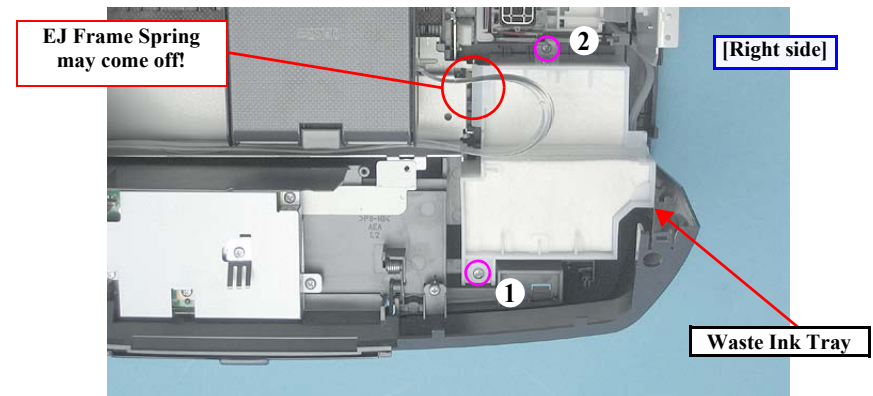

Figure 4-30. Removing the Waste Ink Tray (1)
- Tighten the screws in the order given in Fig.4-30.